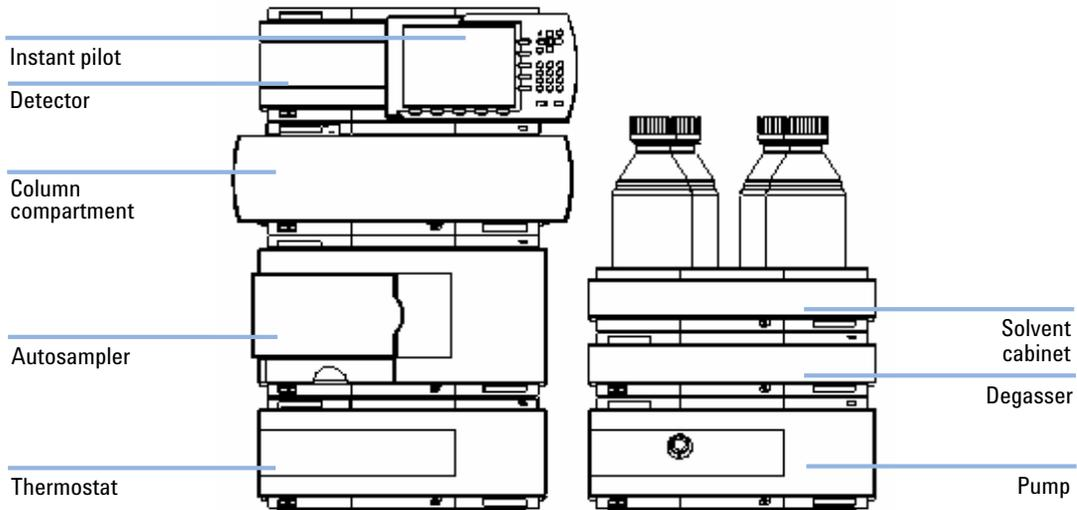
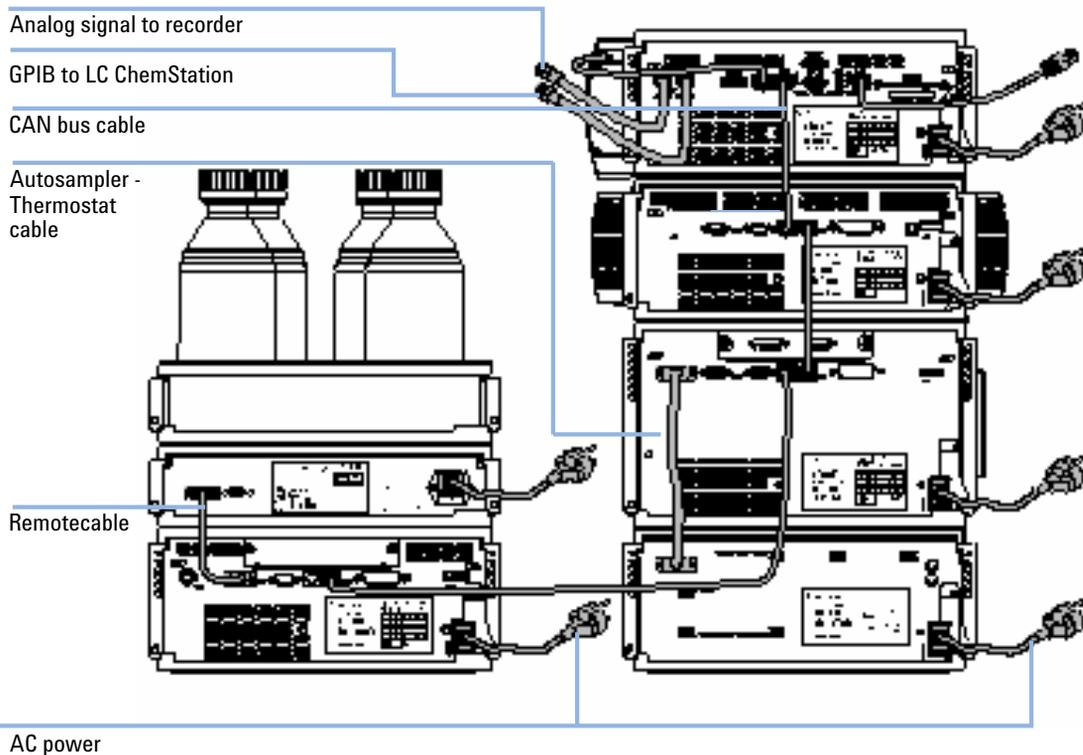
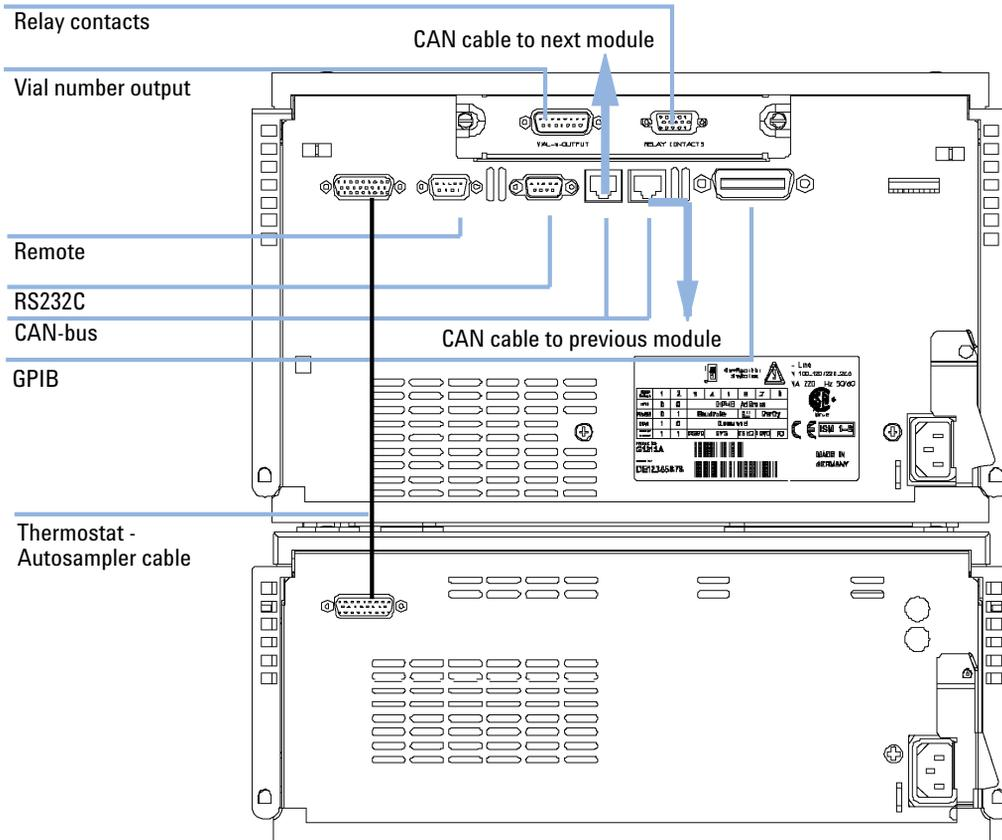

Figure 4 Recommended Stack Configuration (Front View)
Figure 5 Recommended Stack Configuration (Rear View)
Figure 11 Cable Connections.
If your autosampler is part of a system, you can ensure optimum performance by installing the autosampler in the stack in the position shown in Figure 4 on page 23 and Figure 5 on page 24. This configuration optimizes the system flow path, ensuring minimum delay volume.
- 5 Connect the CAN interface cables to other modules in the system (see Figure 5 on page 24 and Figure 11 on page 31).
- 6 If required, connect additional interface and control cables to the autosampler (see Figure 5 on page 24 and Figure 11 on page 31). Refer to the documentation of the Agilent 1200 Infinity Series Instant Pilot or ChemStation for LC for more information.
7 Connect additional cables as required (see Figure 11 on page 31).